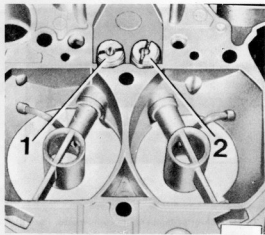

Fig. 3.27. Location of air correction jets - Zenith (Sec. 9)
- 7 The two air correction jets can be unscrewed from the jet housing, but keep them in the right order as they are different sizes (see Fig. 3.27).